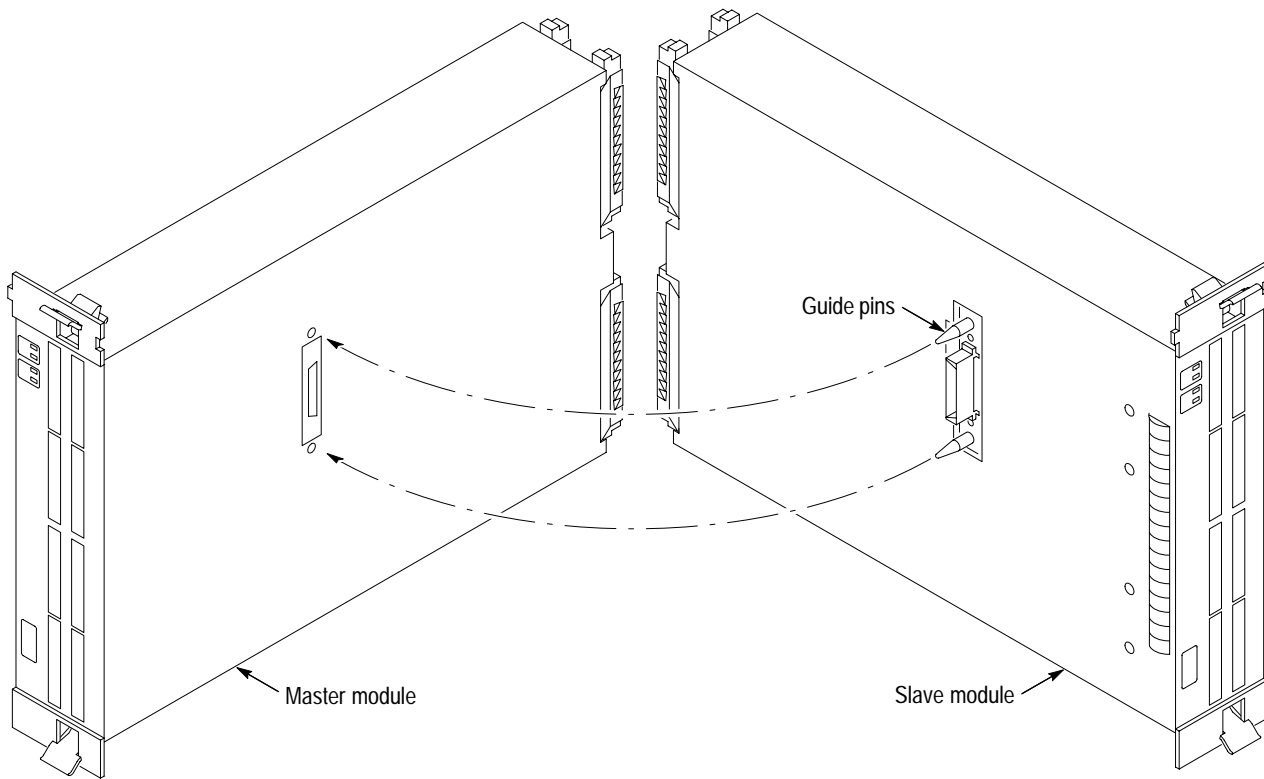

Figure 19: Lining up the two modules
18. Place the Master module adjacent to the Slave module so that the two guide pins from the Slave module line up with the guide pin holes in the Master module (see Figure 19).